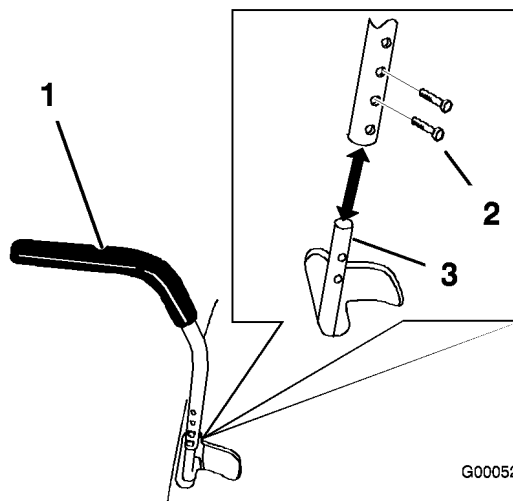

Figure 14
1. Remove the 2 bolts holding the control lever to the control arm shaft (Figure 14).
2. Move the control lever to the next set of holes. Secure the lever with the 2 bolts (Figure 14).